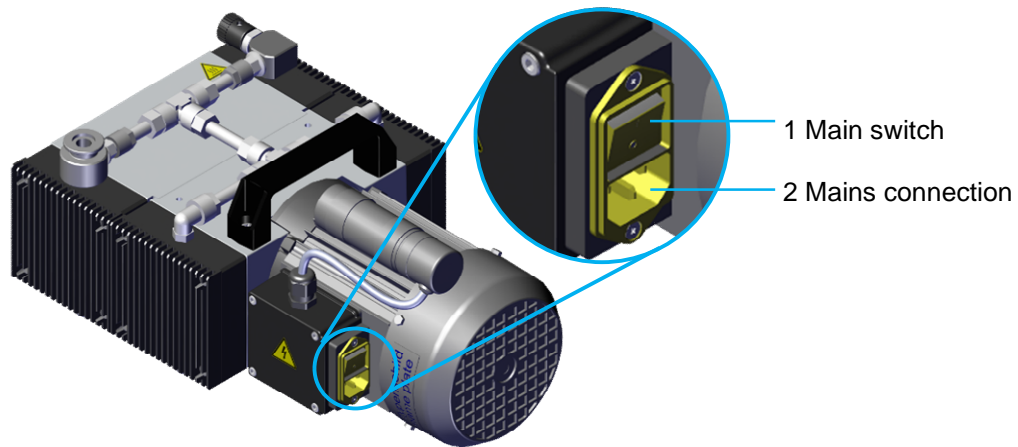

Fig. 5-1. Main switch and mains connection (rear view)
6	Mains connection/ On/Off switch (see Fig. 5-1)
The device is supplied with a standard power cable that is connected at the mains connection (Fig. 5-1/2).
3. Turn on the device at the main switch (Fig. 5-1/1).